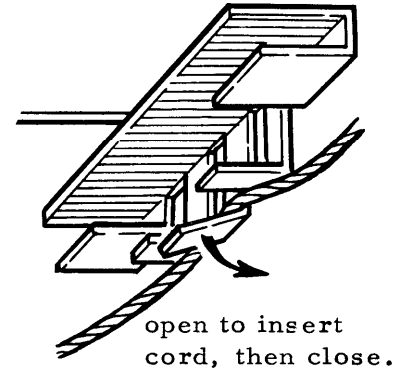

FIGURE 12
- () With the tuning capacitor's vanes fully closed, set the dial pointer to 555 metres (medium wave scale) and loop the dial cord in the slots as shown in Figure 12.